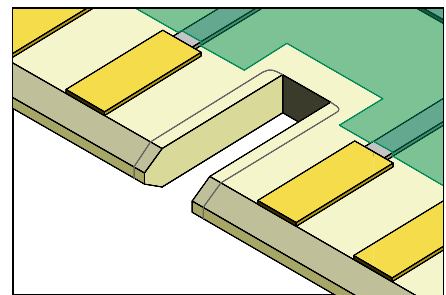

Figure 5: Cut off excess material and file to match edge.
17. Cut off excess length of replacement material and file to match contour of existing edge. (See Figure 5).